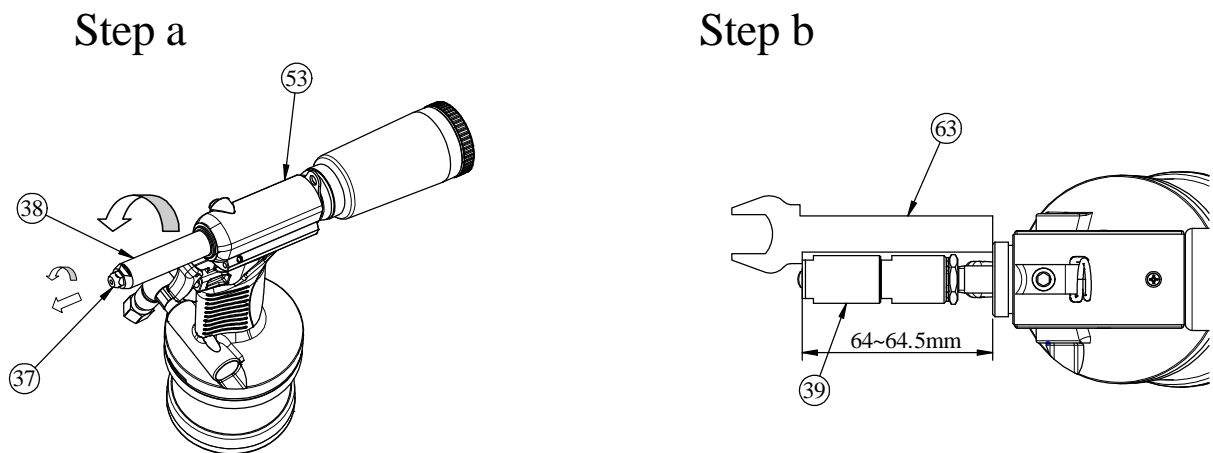

Fig. 2 Detail illustration of changing the nosepiece
FIG 2 DETAIL ILLUSTRATION OF CHANGE THE NOSEPIECE,	4
- a. Loosen and remove the nosepiece (Index 37 in Figs. 2 & 5), then set up the desired nosepiece (Index 37~37-3 in Figs. 2 & 5) on frame head as shown in Fig. 2;